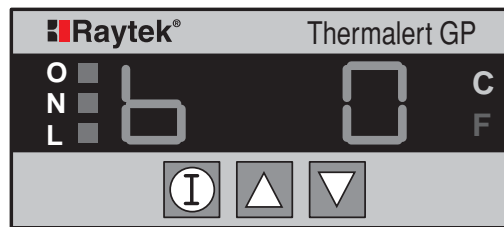

Figure 9: Setpoint Alarm (Trigger) Display
4. Press the  button again and a display similar to Figure 9 appears. If you see a number "1," it means the Normally Low setpoint will change state when the target temperature or value exceeds the alarm value. If a number "0" displays, the Normally Low setpoint will change state when the target temperature or value is lower than the setpoint alarm value.